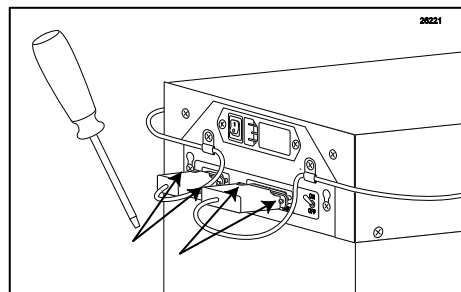

Figure 153
2. Tighten the 4 strain-relief screws of the cable connections with a small flathead screwdriver. (See Figure 153.)